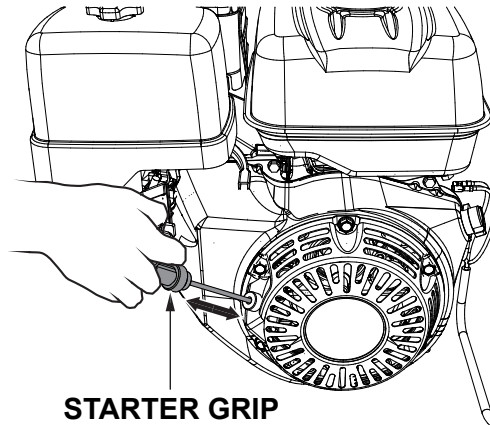

Figure 21. Starter Grip
- Grasp the starter grip (Figure 21) and slowly pull it out. The resistance becomes the hardest at a certain position, corresponding to the compression point. Pull the starter grip briskly and smoothly for starting.